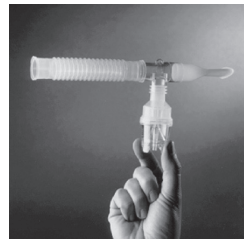

Figure 5: Nebulizer mouthpiece
4. Connect the medication cup to the nebulizer, and then connect the "T" piece or mouthpiece to the nebulizer (Figure 5).